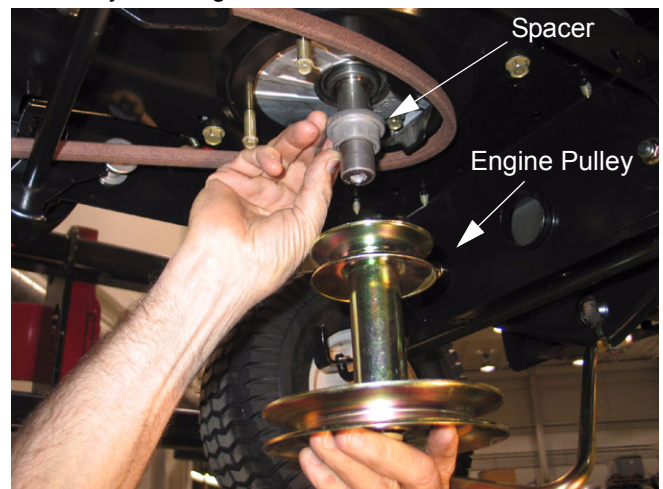

Figure 34
- 8.8. Carefully lower the pulley from the crankshaft and remove the belt from around the engine pulley. See Figure 34.